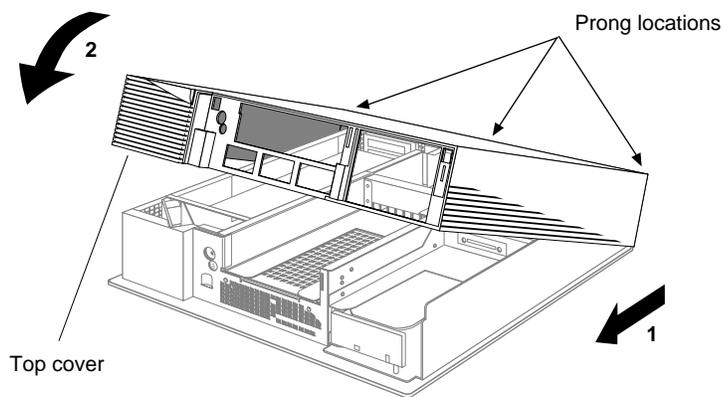

Figure 2-8 Replacing the Top Cover of the CHALLENGE M Chassis
1. Place the prongs on the underside of the cover into the slots under the top ridge of the backplane of the chassis, as shown in Figure 2-8.